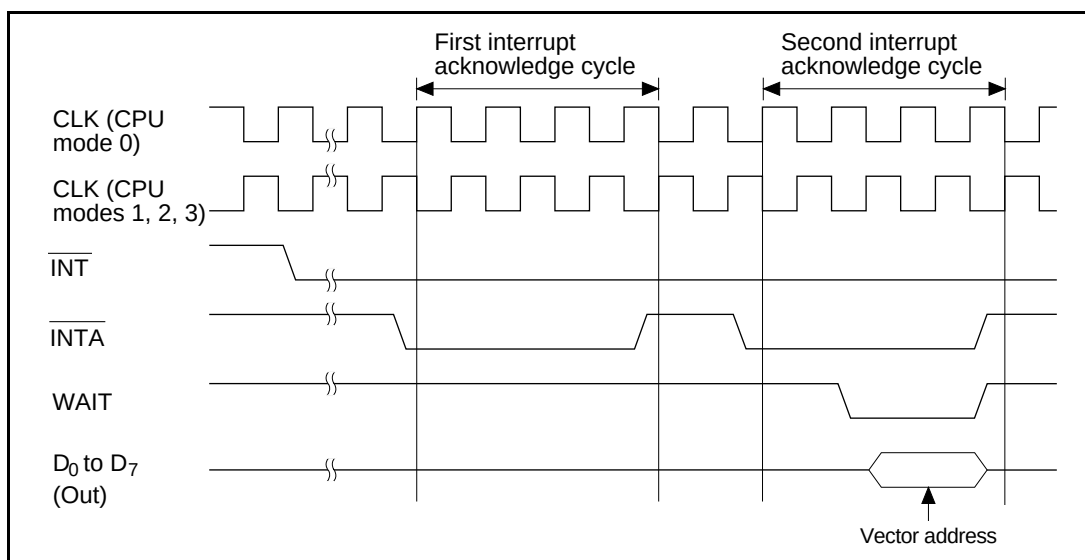

Figure 4.3 Timing Sequence of Double Acknowledge Cycle
3. Double acknowledge cycle: The first active (low) $\overline{INTA}$ input is ignored; the data bus is left in the high-impedance state. The IVR or IMVR contents are output on the data bus at the second active (low) $\overline{INTA}$ input (figure 4.3).